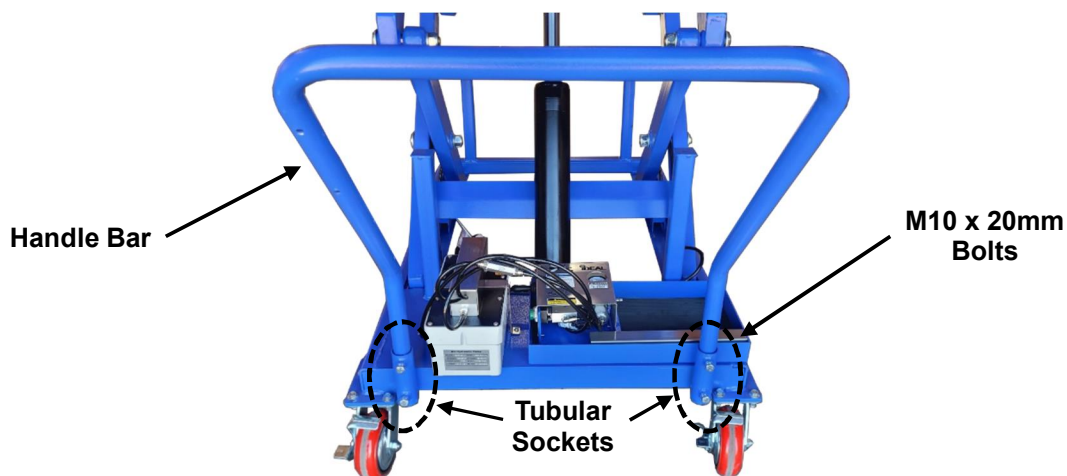

Fig. 1
- 2) Secure with **M10 x 20mm bolts**, ensuring both bar ends are fully inserted into tubular sockets. **Fig. 1.**